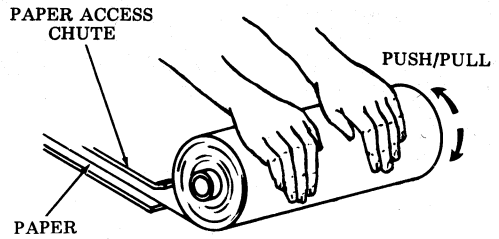

Fig. 52—Rotating Paper Roll
9.04 Rotate paper roll as shown to feed paper through printer. It will be necessary to push and pull paper roll slightly. Use both hands on paper roll for even pressure on paper (Fig. 52).